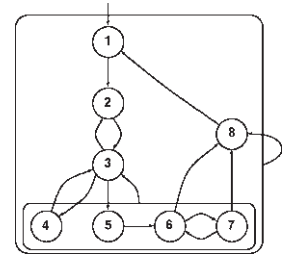

Figure 1: Overview protocol states
The overall FlexRay protocol state machine is shown in **Figure 1** and defines the main steps of every controller implementation how a startup works [2]. Mutual message exchange between nodes is only possible in the normal active state (6). To reach this state the state sequence 1 – 2 – 3 – 5 – 6 must be passed through.